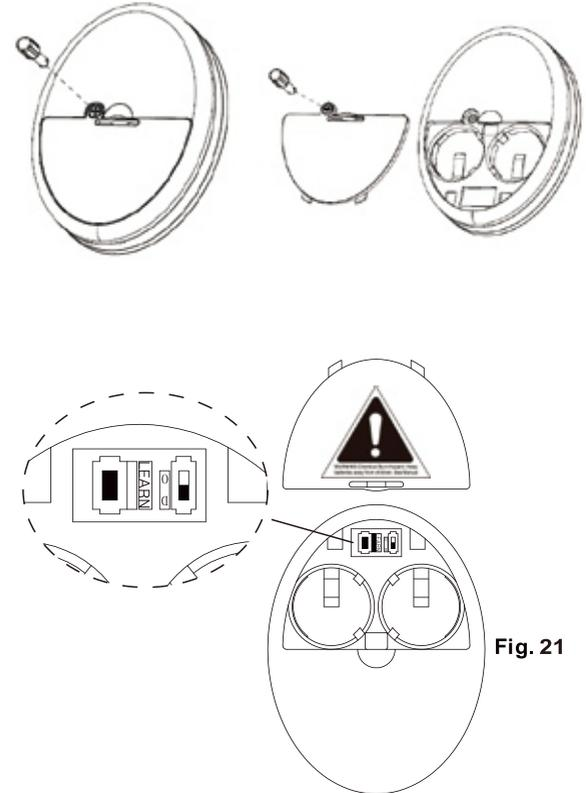

Fig. 21
## ACTIVATING THE LEARNING PROCESS(Fig.21)
2. After installation is complete, AC power is turned on within 30 seconds, press and hold the LEARN button for 3 seconds. Fan will turn on at medium speed and light (if installed) will turn on. This confirms that the SMART SYNC setting is active and ok. (FIG.21)
## LIGHT FUNCTION SELECT SWITCH(Fig.21)